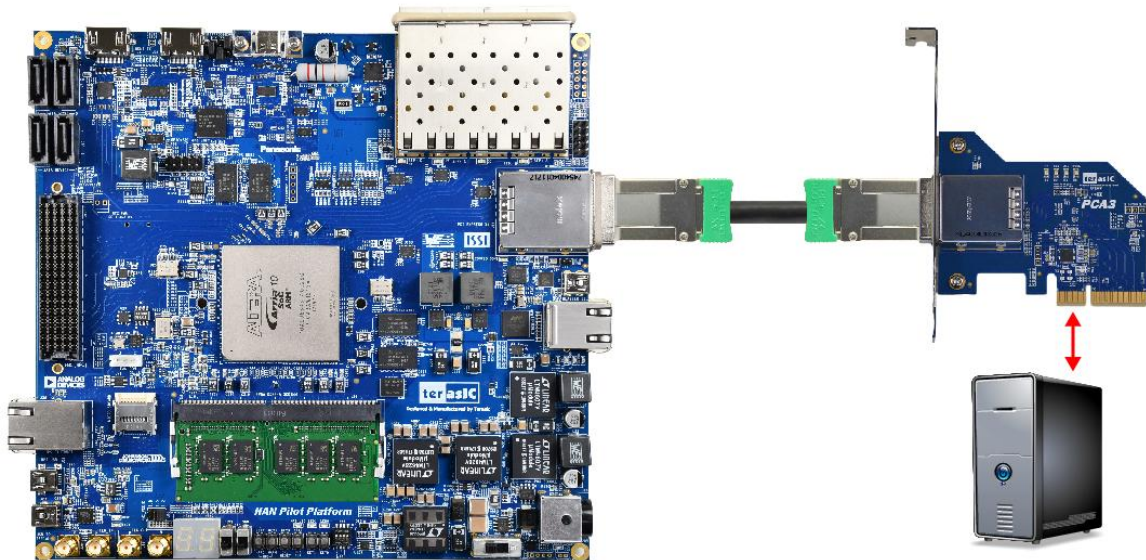

Figure 6-5 FPGA board connect to PC
2. Install the FPGA board on your PC as shown in **Figure 6-5**.